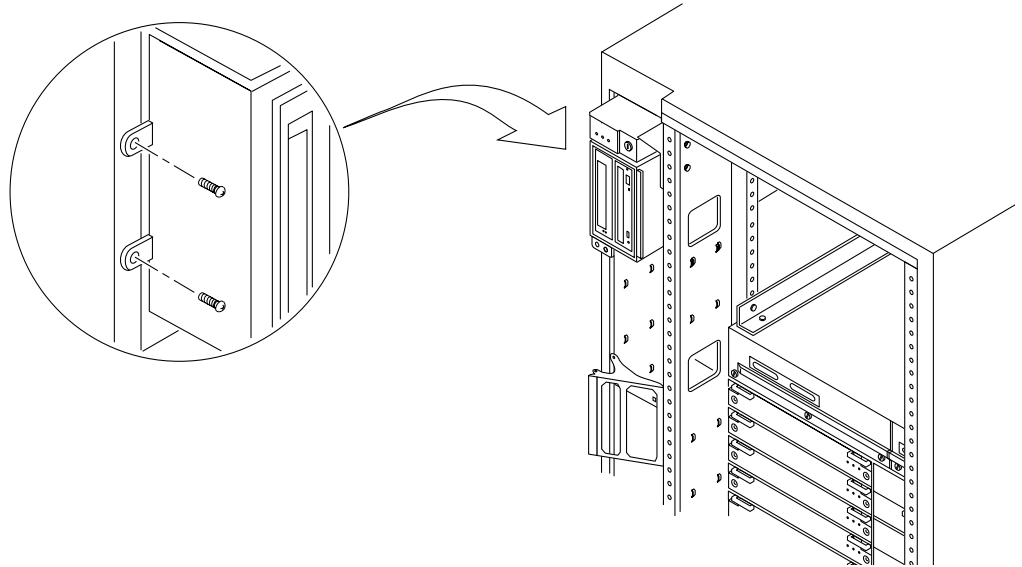
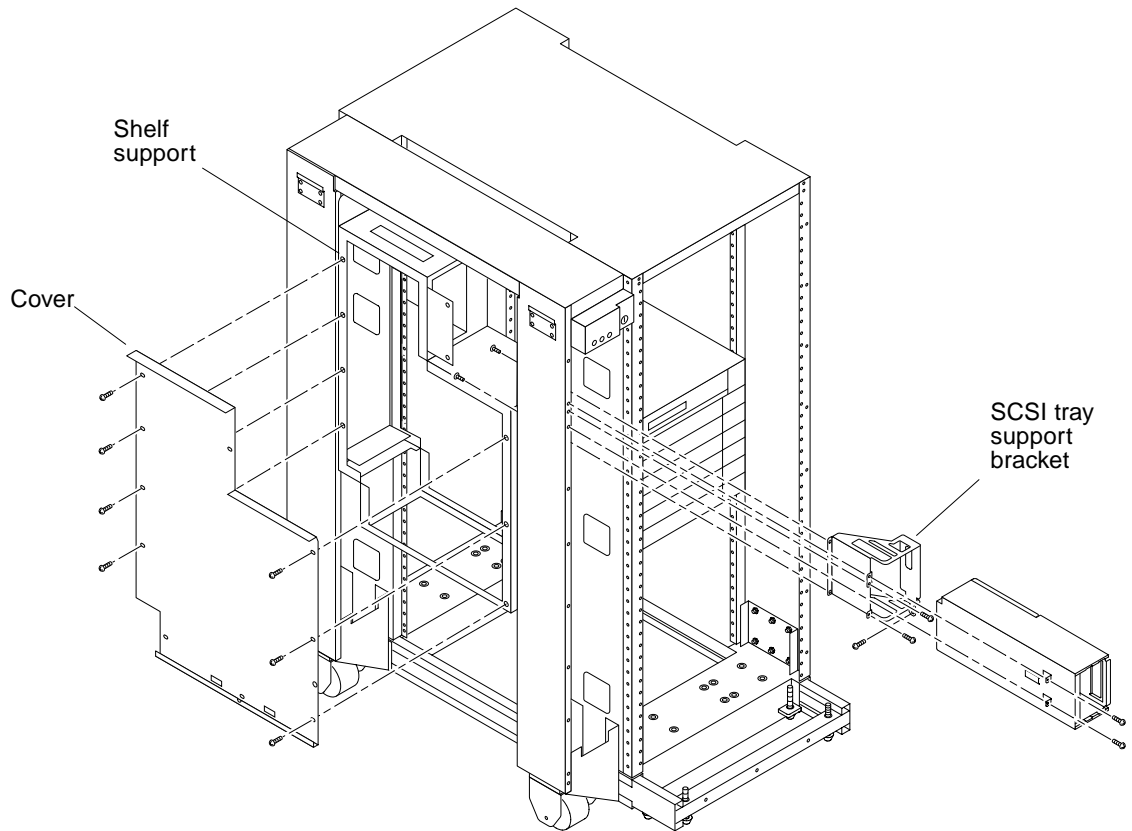

FIGURE 1-13 Screws at Front of SCSI Tray
FIGURE 1-18 Removing Shelf Support Cover and SCSI Tray Bracket
1. Remove the four screws at the front of the bracket, two on the left and two on the right (FIGURE 1-18).
5. Use the four screws removed in Step 1 to secure the front of the replacement bracket to the cabinet pillar (FIGURE 1-18).
1. Push the SCSI tray into the cabinet and replace the two screws that attach the front of the SCSI tray to the left of the cabinet pillar (FIGURE 1-13 and FIGURE 1-18).